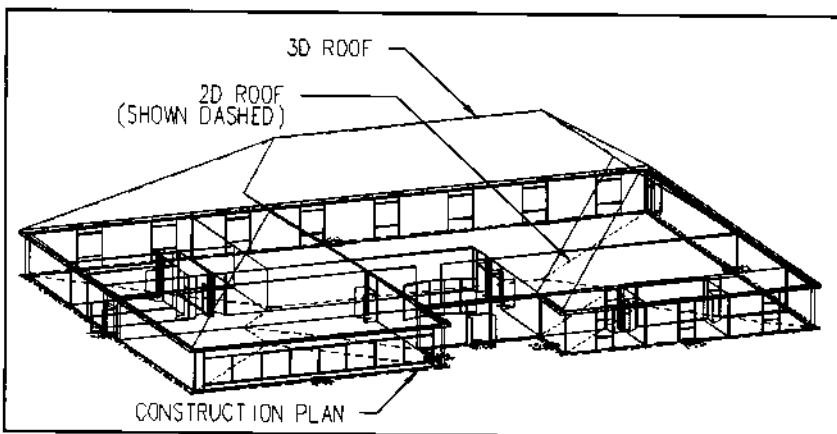

Figure 14.
1. The roof can be converted from 3D to 2D with the Convert 3D to 2D command under the Roof submenu in the Architec pull-down menu. If the roof is a block, it must be exploded first. The 2D roof is constructed at 0 elevation as shown in Figure 14.